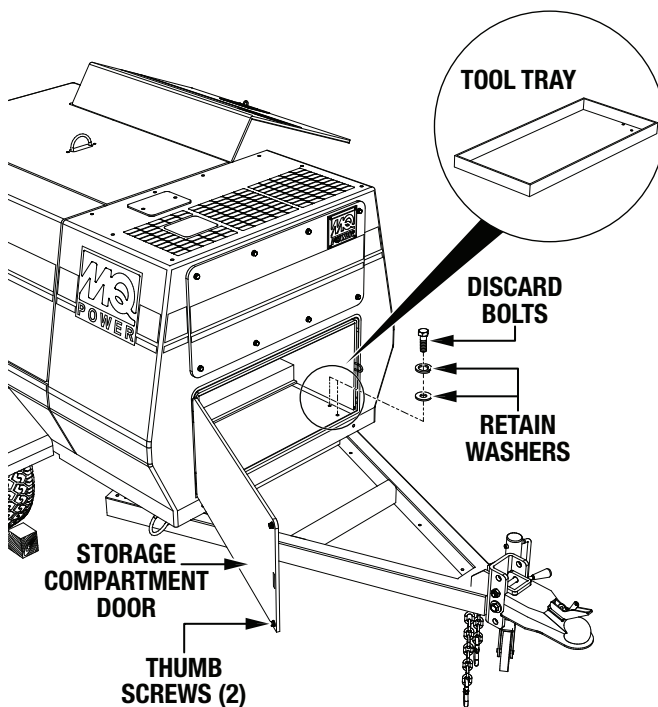

Figure 35. Tool Tray Removal
1. To open the storage compartment at the front of the air compressor, turn the storage compartment door thumb screws counterclockwise and open the door (Figure 35).
2. Remove the four bolts, lock washers, and flat washers securing the tool tray inside the storage compartment (Figure 35). Set the tool tray and washers aside, and discard the bolts.